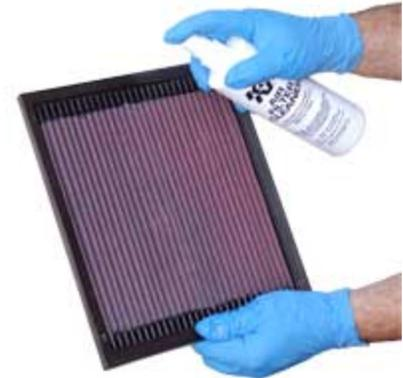

Figure 1.
1. APPLY CLEANER (SEE FIGURE 1)